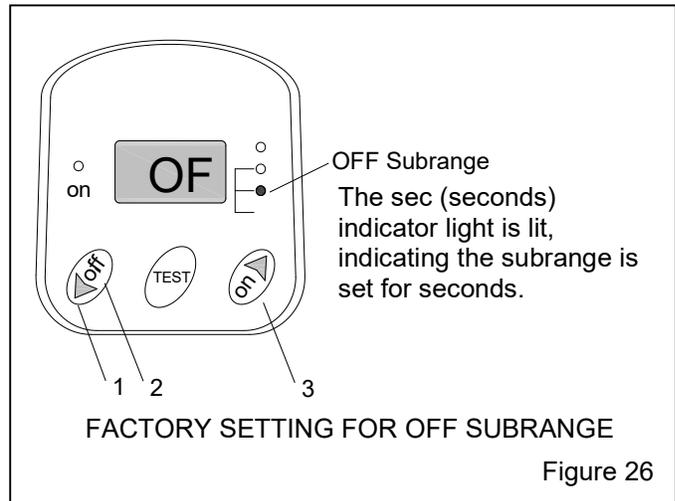
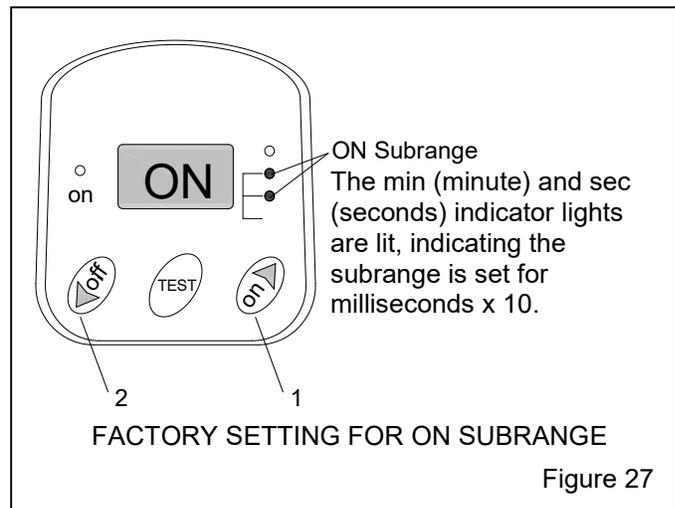

Figure 26
Figure 27
NOTE: There is no need to change ON time. ON time is factory set for 150 milliseconds (0.15 second), as shown in Figure 27. If ON time is accidentally changed, reset it to 150 milliseconds as follows:
1. Make sure the ON subrange is set to milliseconds, as noted in Section 5.8.5.2, Figure 27.
NOTE: The OFF subrange is factory set for seconds, as shown in Figure 26. The ON subrange is factory set for milliseconds. Each value shown on the LED is 10 milliseconds (1/100 of a second), as shown in Figure 27. There is no need to change subranges; if subranges are accidentally changed, reset them to factory settings, as follows:
**5.8.5.1 Reset OFF (time between each pulse) subrange to factory setting of seconds, as shown in Figure 26:**
**5.8.5.2 Reset ON (duration of pulse) subrange to factory setting of milliseconds, as shown in Figure 27.**